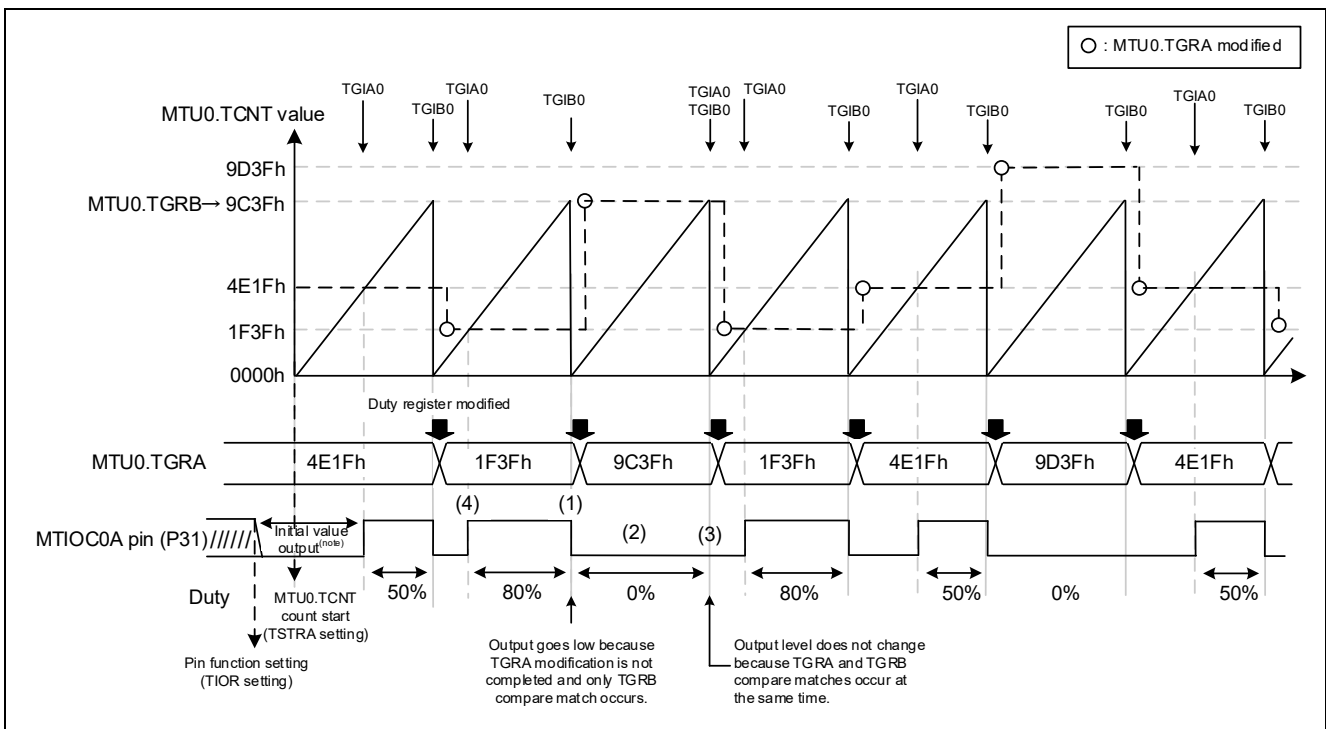

Figure 3.82 PWM Output with Duty Cycles 0% to 100% (without buffer)
The TGRA value is changed when TGIB0 occurs, in the timing shown in (1) in Figure 3.82, and output is changed to low because only the TGRB compare match occurs. As a result, even though 100% is desired the output, 0% is output ((2) in Figure 3.82). Also, because output does not change when the TGRA and TGRB compare matches occur at the same time, low is retained ((3) in Figure 3.82).
Figure 3.83 shows how to modify the TGRA at the timing indicated by (4) to avoid the conditions of (2) in Figure 3.82.